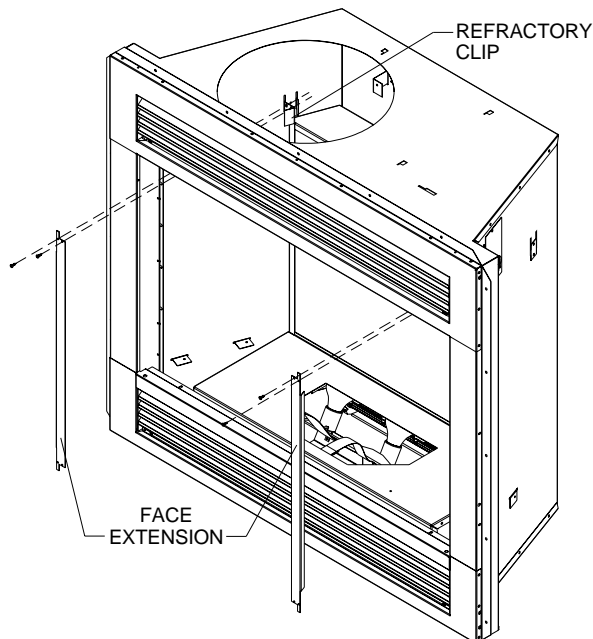

Figure 34 - Removing Face Extensions
5. Remove the 4 Phillips screws holding the face extensions at the top refractory clips. See **Figure 34**.
3. If the upper rear ribbons need replacing, remove the 4 Phillips screws holding the corresponding bottom and top hanger brackets. See **Figure 34**, page 17.